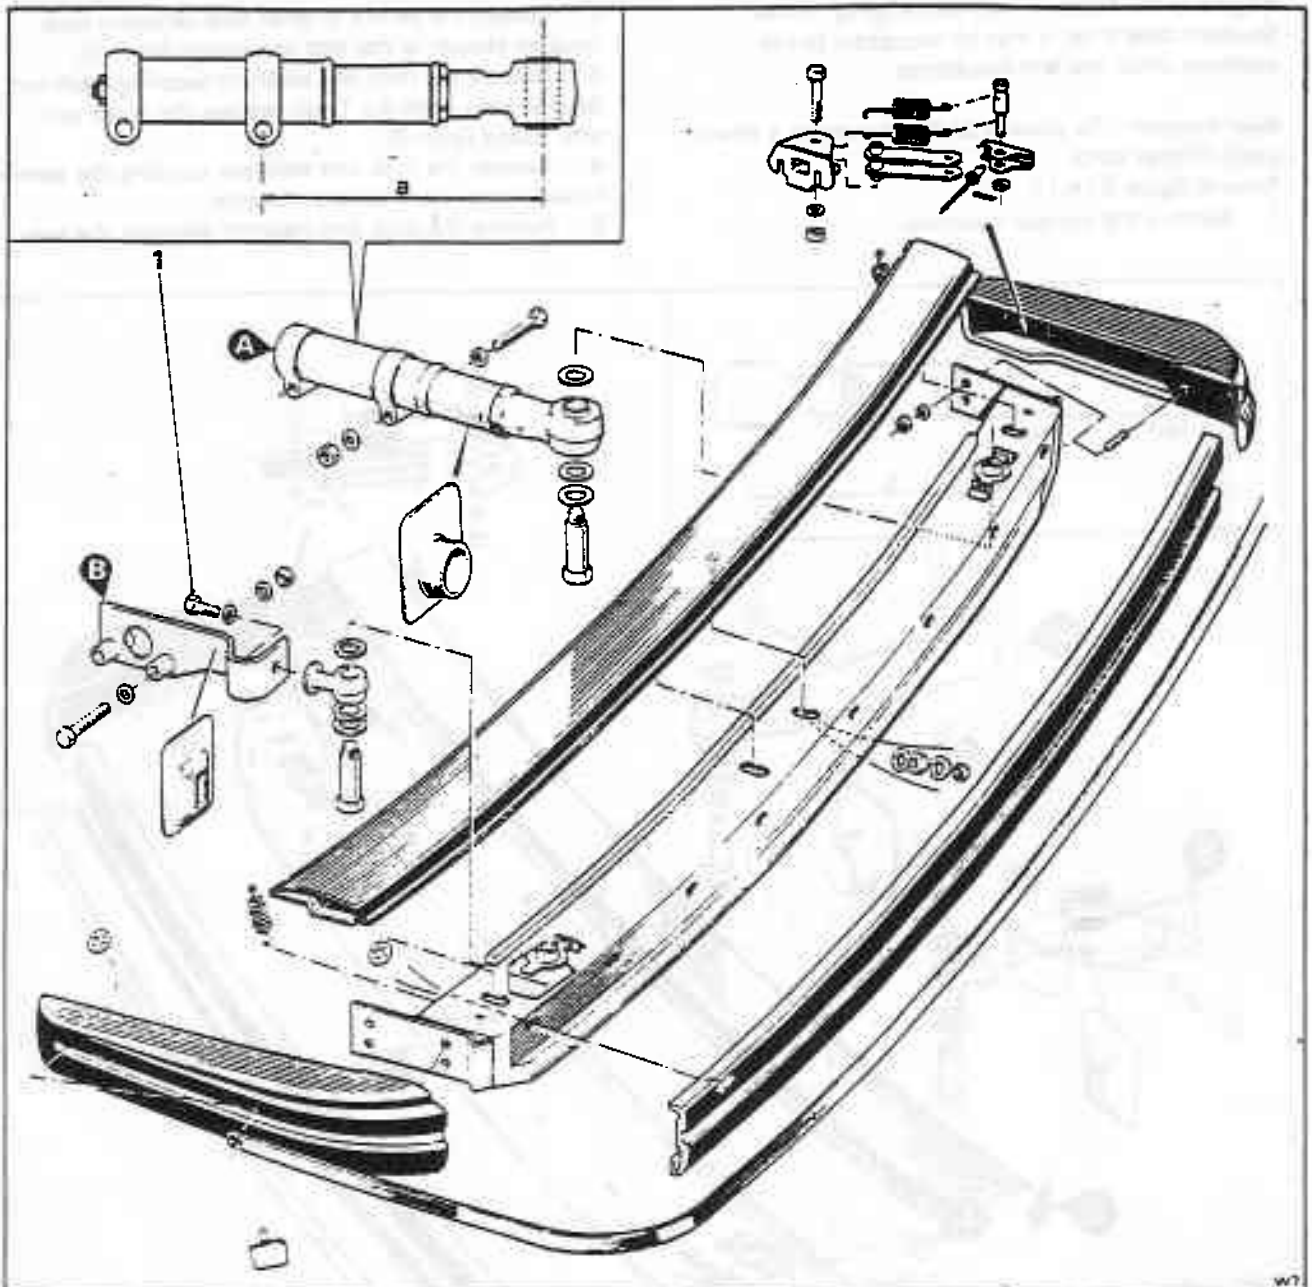

Fig. S14-11 Rear bumper assembly
Cars other than those conforming to a North American specification (see fig. S14-11)
2. Remove the bolt securing each of the adapters to the mounting brackets (see fig. S14-11, item 1).
Cars conforming to a North American specification (see fig. S14-11)
1. Before fitting the absorber units into the apertures check the length of the units (see fig. S14-11, item a).
Refer to figure S14-11